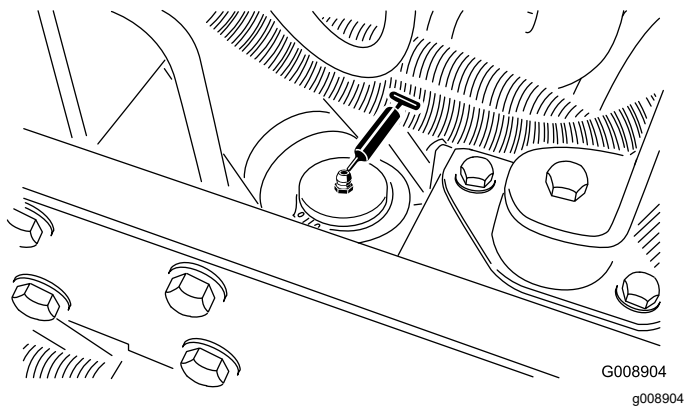

Figure 43
- Neutral-adjustment mechanism (Figure 43)
- Steering cylinder (Figure 43)